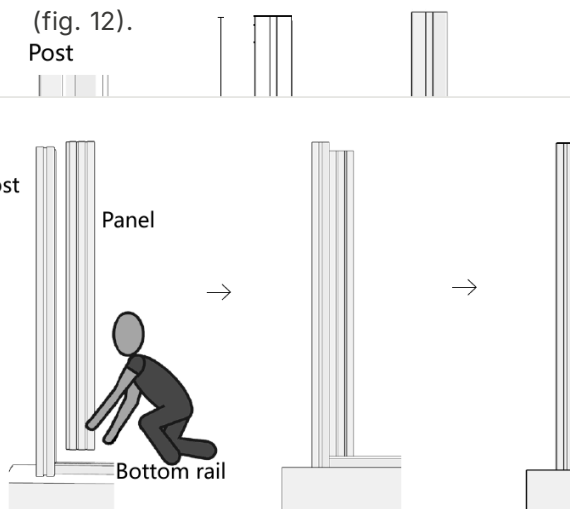

FIG. 11 – VERTICAL PANELS SEATED ON THE LOWER RAIL
- 01 Assemble the 12 vertical panels in sequence between the posts, seating them on the lower rail (fig. 11).